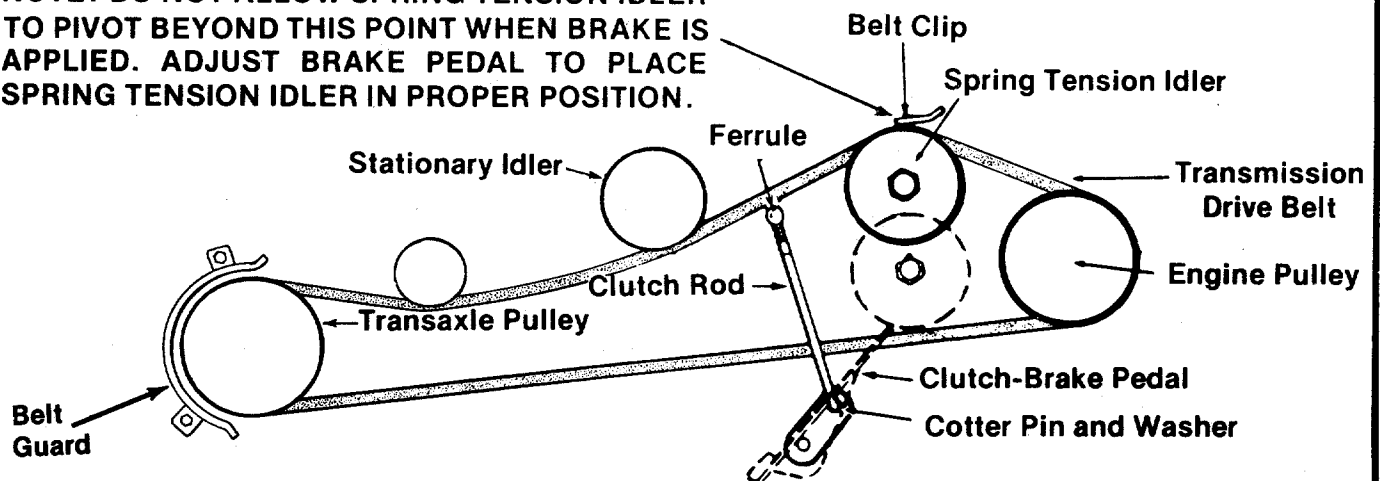

FIGURE 20.
To adjust the angle of the clutch-brake pedal, remove the cotter pin and washer on the clutch rod and turn the clutch rod in or out of the ferrule to obtain the most comfortable angle of the pedal when the pedal is released. Replace the washer and cotter pin. See figure 20.
Step 5. Remove the belt guard on the transmission pulley. See figure 20.